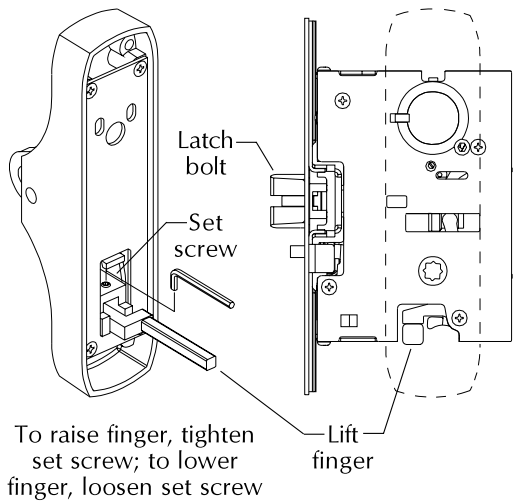

Figure 4. Adjust Lift Finger
10. Push down lock stile lever and check for full retraction of latch bolt. Release and check for full extension (3/4"). Adjust lift finger if necessary (Figure 4).